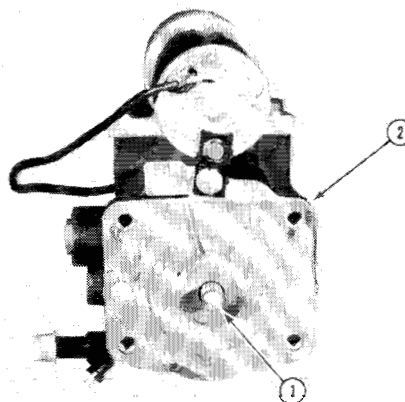

Figure 51
Remove piston rod (1, Figure 51) from power booster assembly (2).